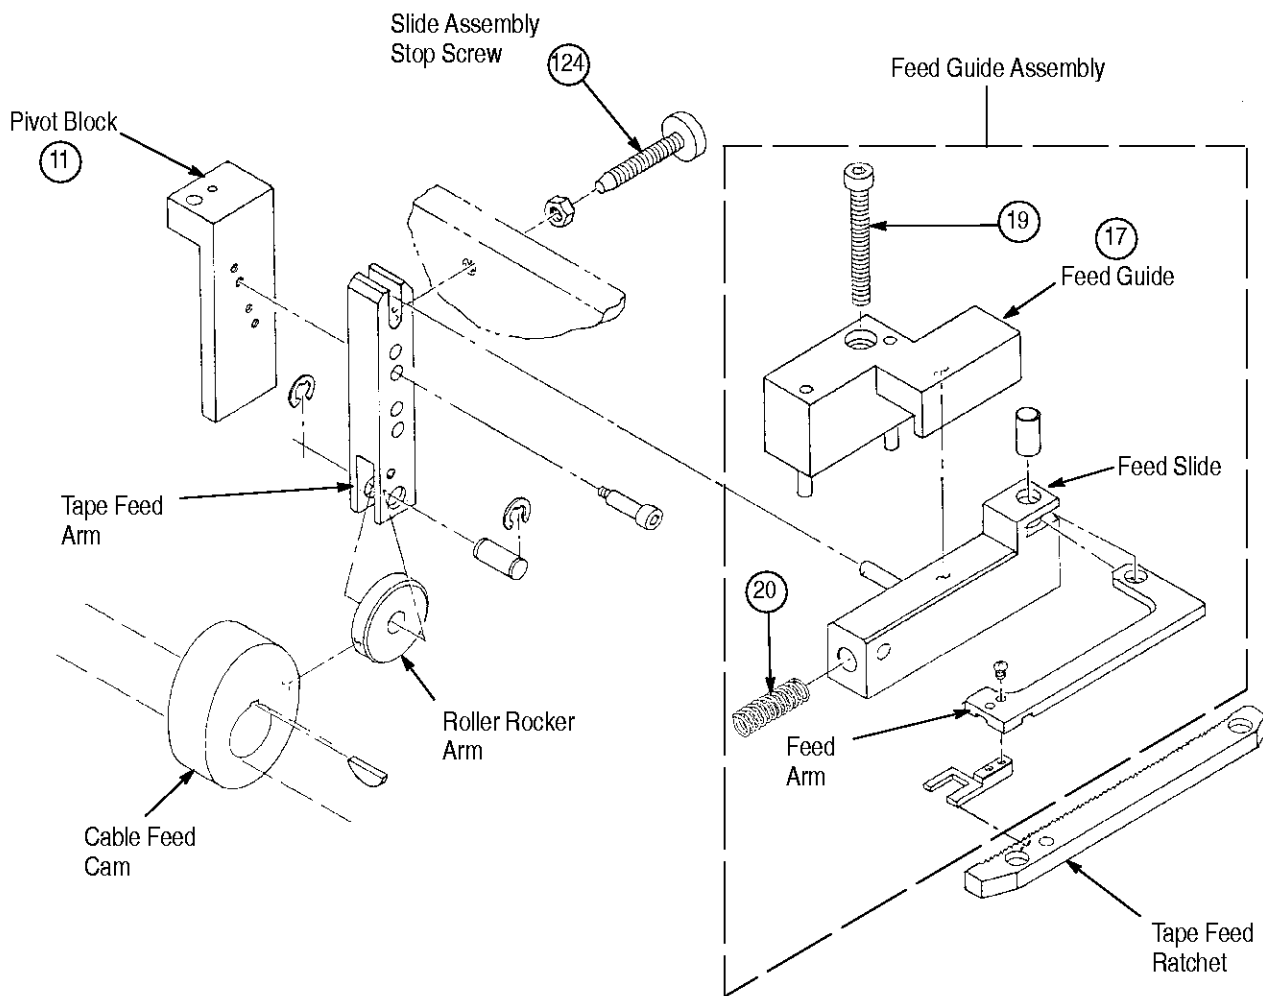

Figure 15
3. Turn hex head alignment screw (see Figure 15) until anvil appears centered. Maintain position of anvil and alignment screw; then tighten button head capscrews.
2. Remove item 187, Cable Support Plate (682596-1), from slide assembly (two button head screws).
3. Remove all of "Feed Guide Assembly," (Figure 15, see detail, item 17, Part Number 854924-1) (one socket head capscrew).
4. Remove item 11, Pivot Block, Tape Feed Arm Attached, Figure 15 (one socket head cap screw).
- Adjust Slide Assembly stop screw (see Figure 15) when running 5.08 mm [.200 in.] or 7.62 mm [.300 in.] conductor centerline. Hand-cycle the machine to ensure table is indexing correctly.